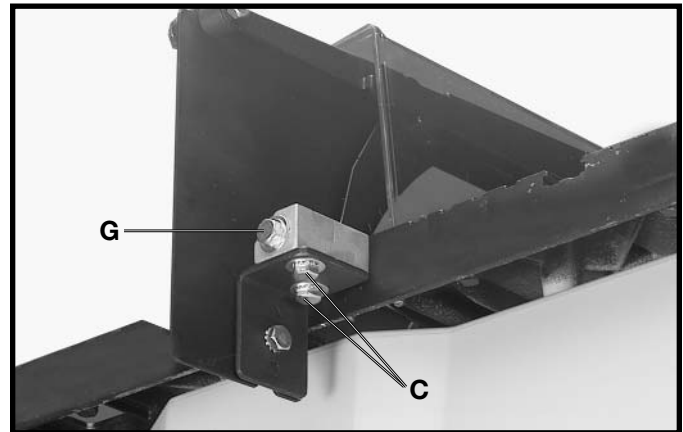

Fig. 17
11. When you are certain the splitter is properly aligned with the saw blade, tighten the two screws (C) and (G) Fig. 17.